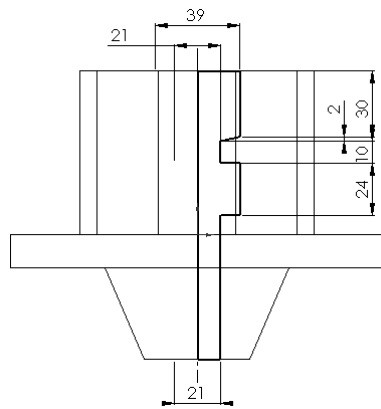

Figure 9-58 Sketch for the revolve cut feature
- Create the revolve cut feature, refer to Figures 9-58 and 9-59.
2. Draw the sketch for the revolved cut feature and apply the required relations and dimensions to it, as shown in Figure 9-58.